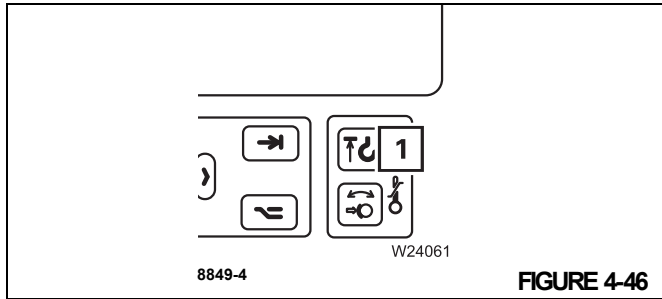

FIGURE 4-46
- Make sure that hoist up, boom lower and tele extend are locked out, the hoist limit indication (1), (Figure 4-46) is illuminated, and the operator display buzzer is on. If so the anti-two-block switch is determined to be functioning properly.